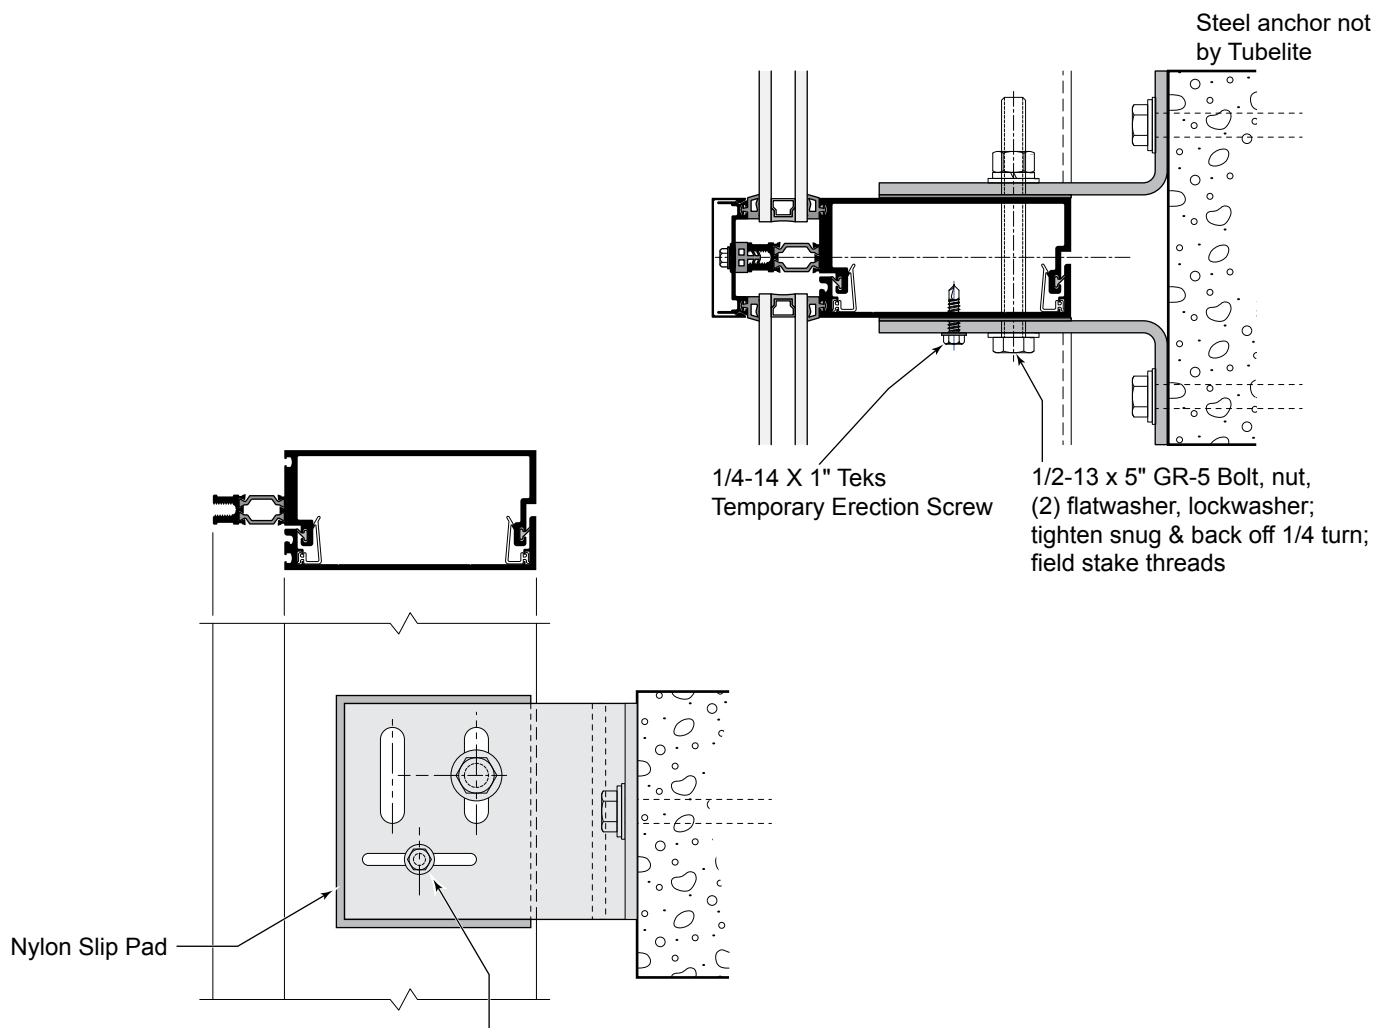

Fig. 38.1
- iii. Shim between the bottom of the vertical and T/F anchors for proper dead load distribution. See **Fig. 38.1**.